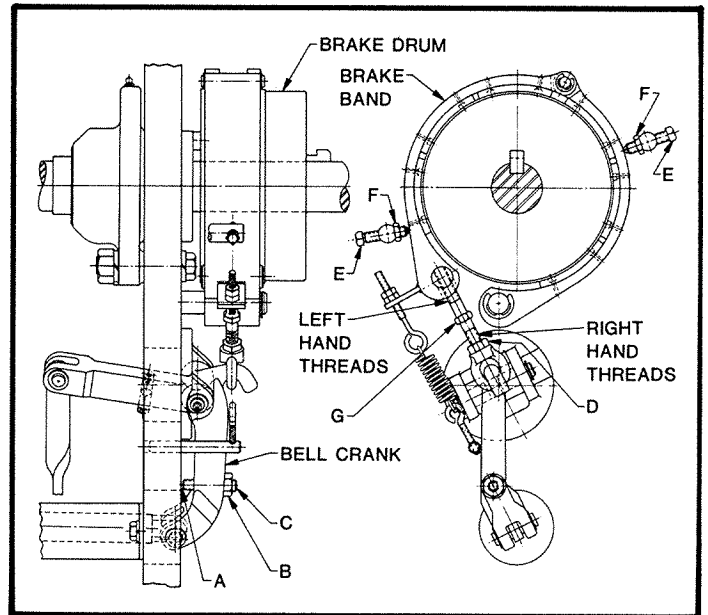
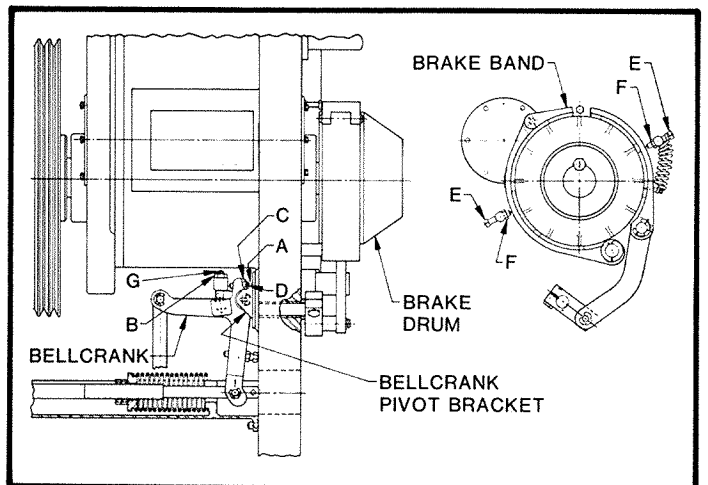

FIGURE 93
FIGURE 94
Figure 93 is for press brakes with the bell crank pivoted on the inside of right housing, and Figure 94 for bell cranks pivoted on the outside of right housing.
2. Loosen lock nut "D" (Figure 93) or "B" (Figure 94). Turn stud "G" (Figure 93) or screw "G" (Figure 94) to tighten the brake. There should be some clearance between the brake drum and the linings on the brake band. Tighten lock nut "D" or "B".
7. Disengage the clutch, which engages the brake. There should be 1/16" to 1/8" clearance "A" between screw "C" (Figure 93) and the inside of right housing, or between screw "D" (Figure 94) and the bellcrank pivot bracket.
If necessary to adjust clearance, loosen lock nut "B" (Figure 93) or "C" (Figure 94). Adjust screw "C" (Figure 93) or "D" (Figure 94) to obtain clearance and then tighten the lock nut.